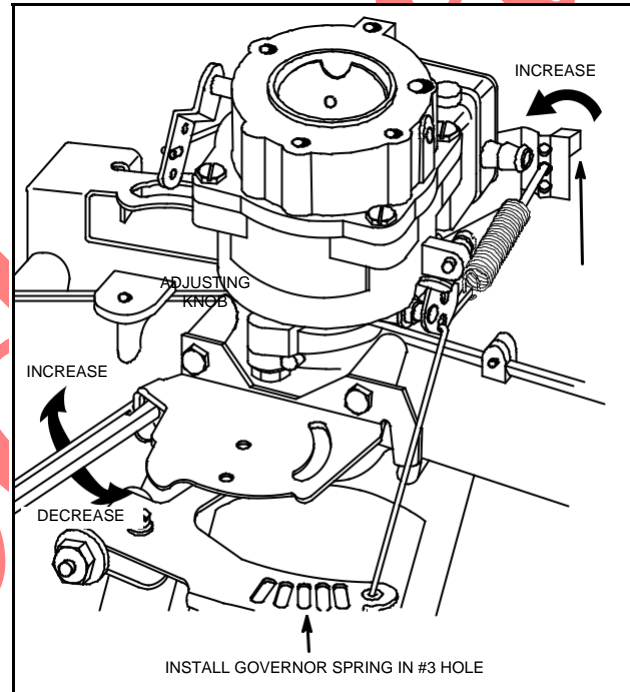

Fig. 46 – Adjust High Speed
4. Bend governed idle tang to obtain 1875 RPM. Top-No-Load RPM, Fig. 46.